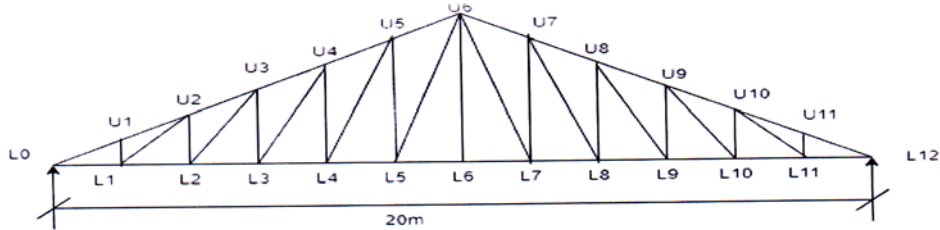

Figure 1
- Q5)** A truss as shown in figure 1 is having rise of 4m and spaced at 4m centre to centre used for an industrial building situated at Pune. The truss is covered with AC sheets of weight 180 N/m^2 . Calculate panel point dead load, live load and wind load. Design member L_0U_1 and L_1U_1 . The design wind pressure is 876 N/m^2 and $(C_{pe} - C_{pi}) = \pm 0.8$. [18]